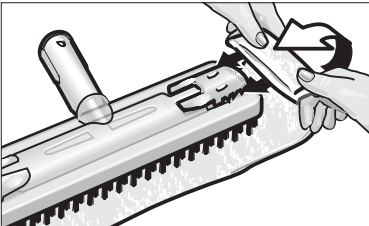

Figure 3: Attaching the floorcloth
- Attach the floorcloth (G3) to the floor nozzle (G1). Fold up the floorcloth lengthways, and place the floor nozzle on the cloth. Pull the jutting out ends of the floorcloths one after the other under the retaining clips (G2) (see Figure 3).